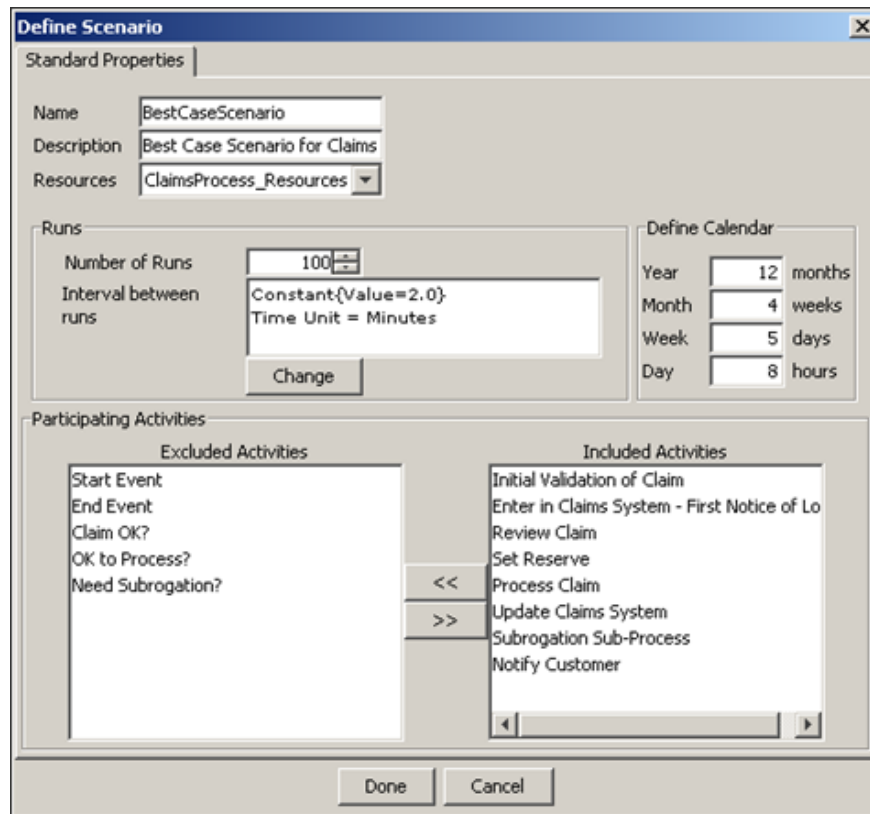

Figure 9: Claim Management Scenario
13. You can include or exclude an activity in the simulation scenario to get different statistics. *Participating Activities* section shows the list of activities which are included in the scenario and which are not included in the scenario. You can exclude and include an activity using << and >> button respectively. Figure 9 shows the scenario used in Claims Management process flow.